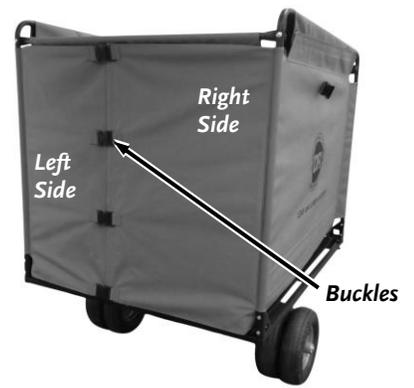

Figure 82
1. Unlatch the Buckles that secure the left and right side Doors (**Figure 82**).